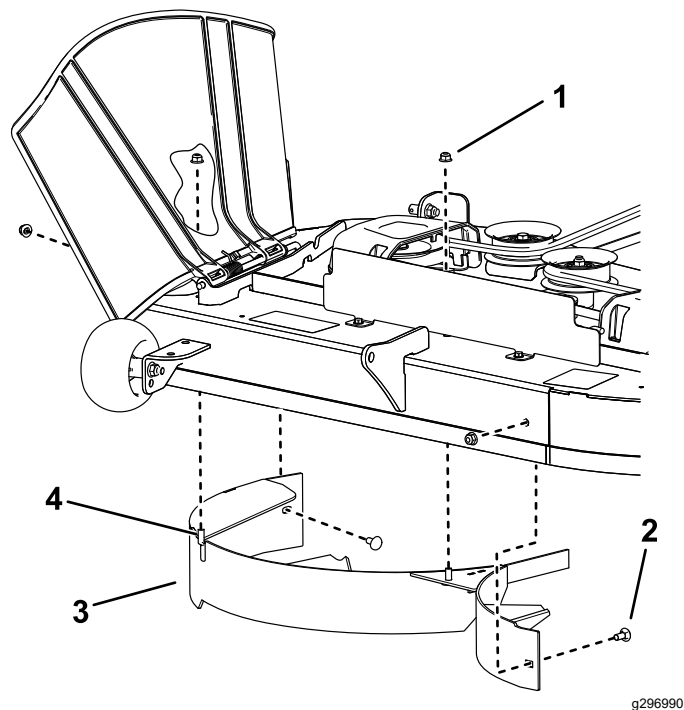

Figure 12
4. Remove the 2 locknuts (5/16 inch) from the welded posts of the baffle (Figure 12).
5. Remove the 2 carriage bolts and 2 locknuts securing the baffle to the deck and remove the baffle (Figure 12)
6. Locate the 2 bolts in loose parts and use the existing locknuts to install these fasteners into the holes used for the welded posts (Figure 12) to prevent flying debris.